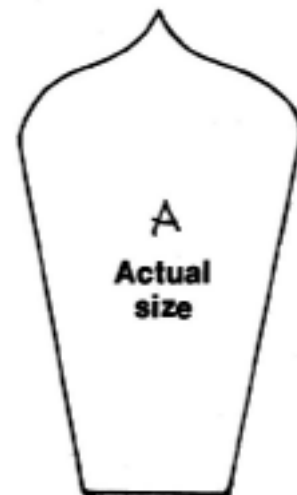

Fig 14.2
1. Draw up all panels on graph paper using the dimensions in fig 14.1 Use the full-size drawing (fig 14.2) for the crown panel.